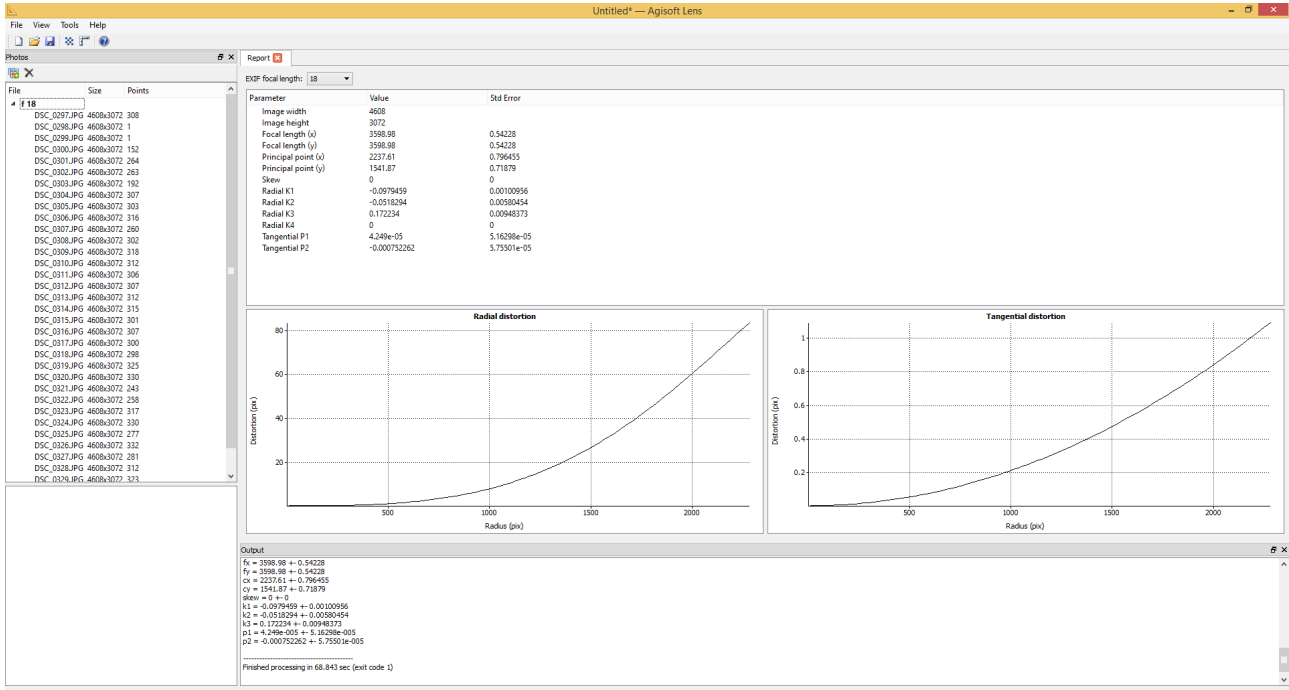

Figure 4: Results of camera calibration.
6. figure 4 shows the result of camera calibration